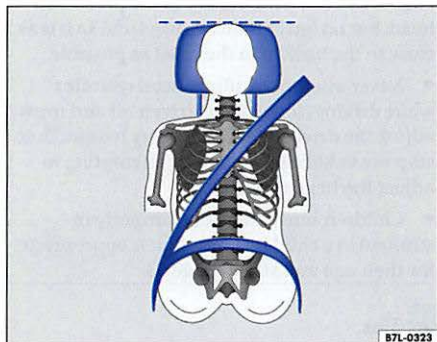
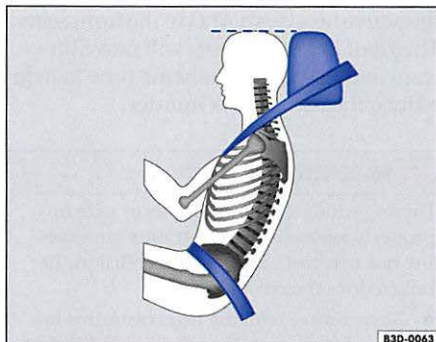

Fig. 3 Correctly adjusted head restraint viewed from the front
Fig. 4 Correctly adjusted head restraint viewed from the side
- Adjust the head restraint so that the upper edge of the restraint is level with the top of your head, but no lower than eye level and so it is as close to the back of your head as possible ⇒ fig. 3 and ⇒ fig. 4.